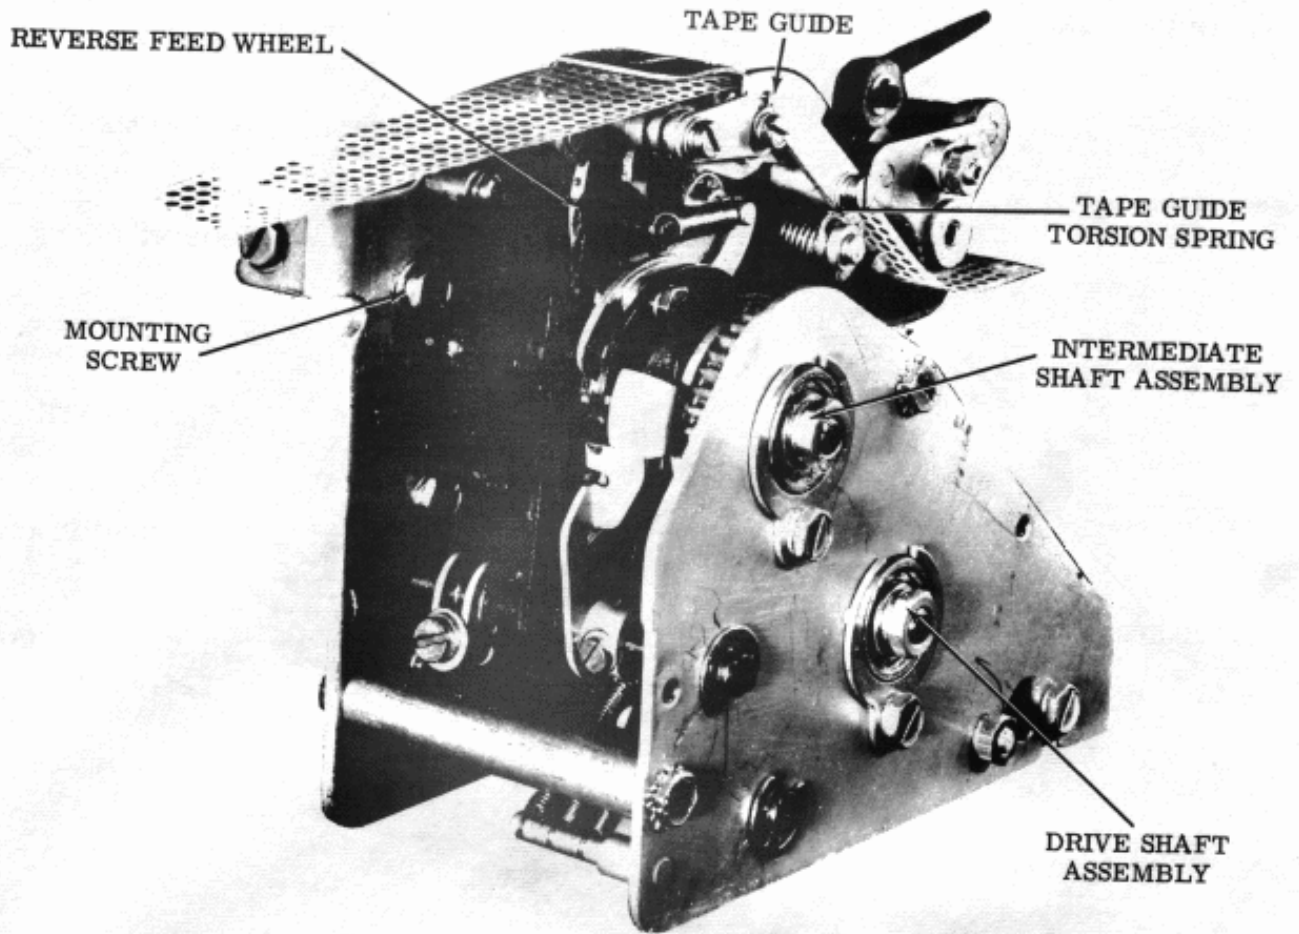

Figure 9 - Punch Backup Mechanism, Left Front Oblique
PUNCH BACKUP MECHANISM (Figure 9)
3.07 To remove the tape guide assembly (Figures 9 and 10):
3.08 To remove the backup mechanism from the main casting (Figures 9 and 11):